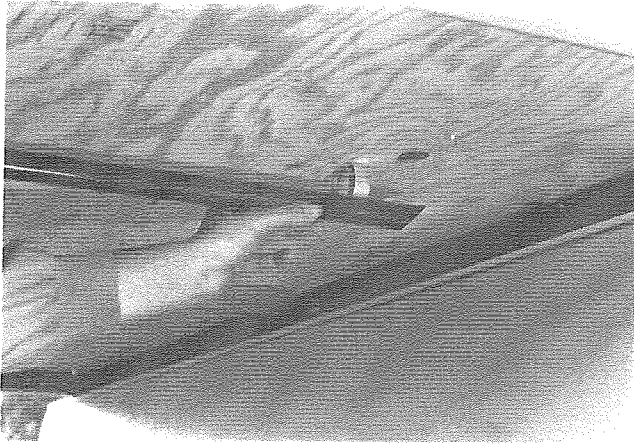

FIG. 15
17. Kneel down beneath the side of the fully extended bed and pull down the bed support tubes from their travel position. Lift the bed slightly while placing the free end of the bed support tube over the support peg. (See Figs. 15, 16 & 17) Perform same procedure for rear bed.